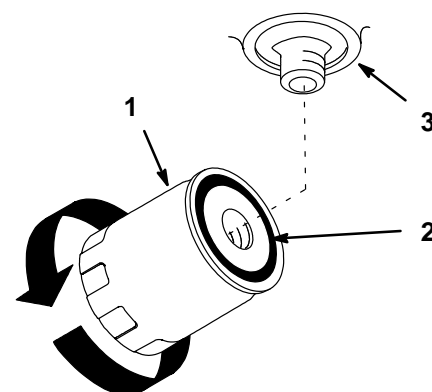

Figure 36
4. Apply a thin coat hydro fluid to the rubber gasket on the replacement filter (Fig. 36).
7. When fluid overflows filter turn the oil filter clockwise until the rubber gasket contacts the filter adapter, then tighten the filter an additional 1/2 turn (Fig. 36).